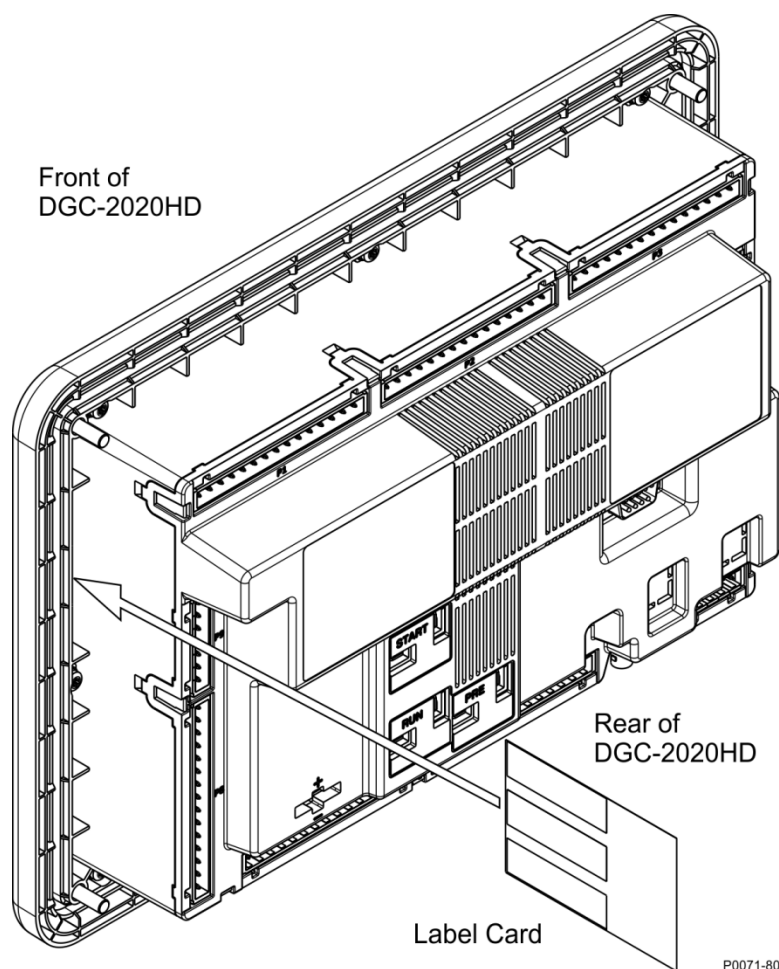

Figure 16. Label Card Slot Location
5. Grasp the tab of the label card and pull free. The label card tab is located on the rear of the DGC-2020HD, see Figure 16. When facing the back of the panel, the label card tab is on the left.